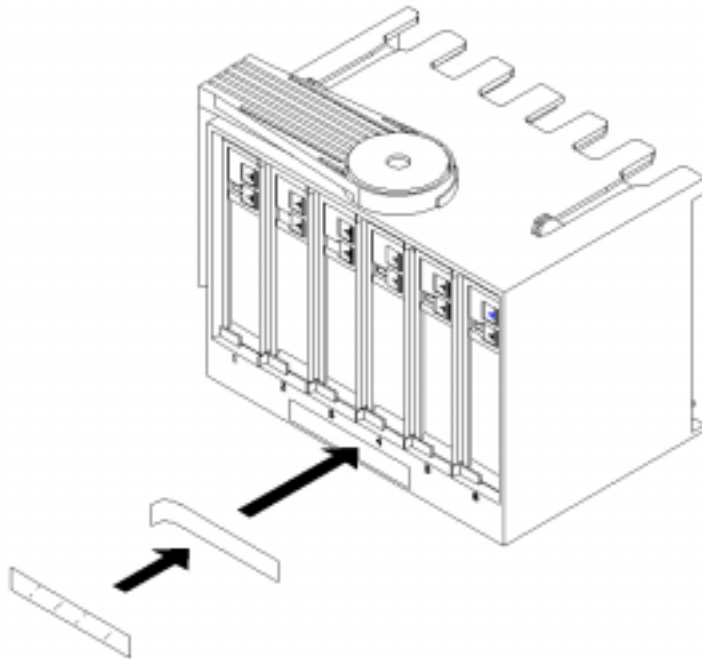

FIGURE 3-2 Magazine Label Position
5. Place the clear label holder over the label to secure it, shown in FIGURE 3-2.